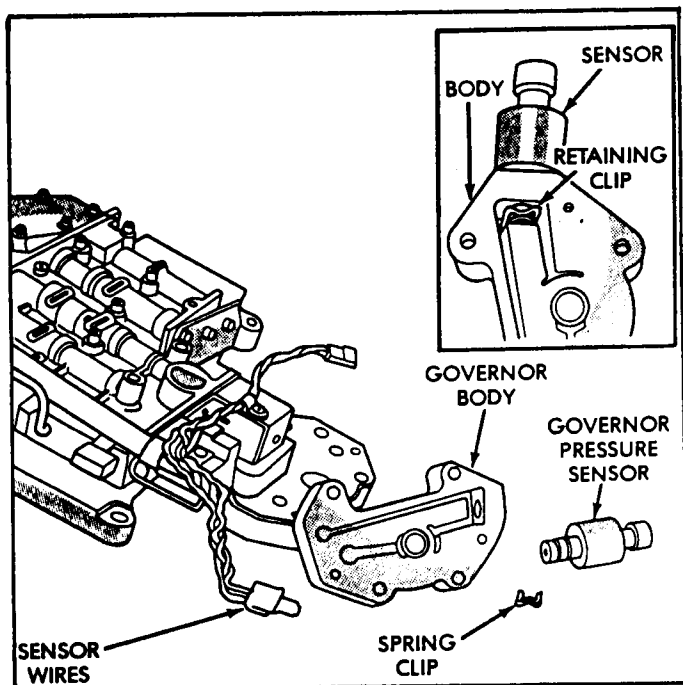

Figure 118
57. Install governor pressure sensor into the governor body with twisting motion and install the retaining clip, shown in Figure 118.